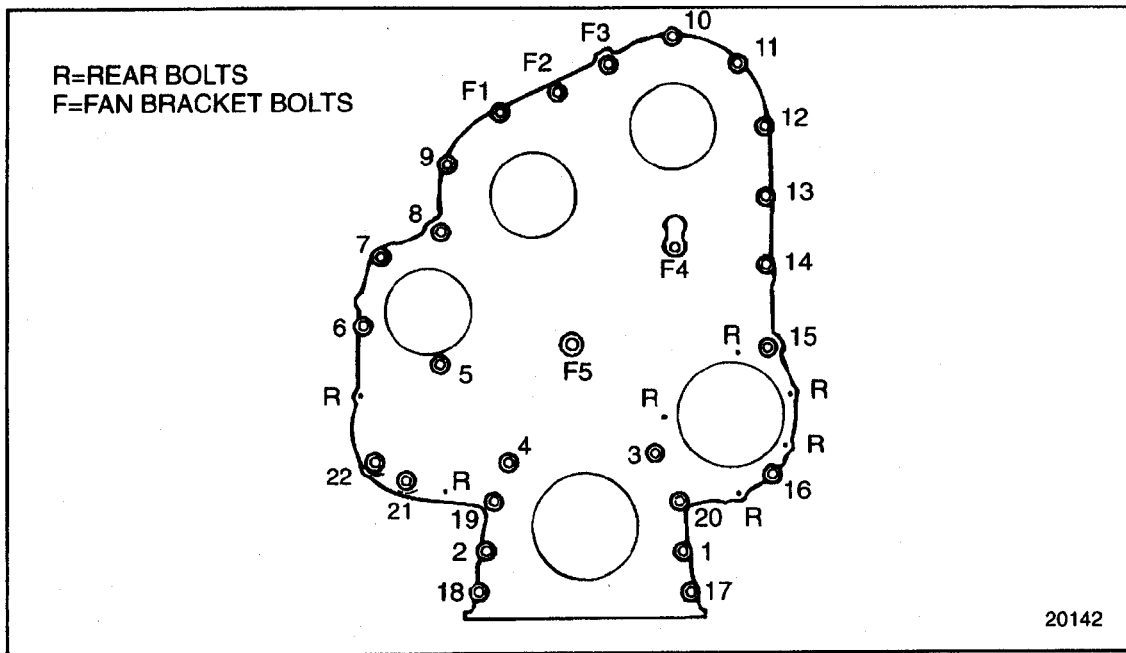

Figure 1-168 Gear Case Cover Bolt Torque Sequence (Front)
- [a] Install the shorter bolts, No. 1 through 16, 21, 22 (see note), in various locations at the front of the gear case cover. Finger-tighten them. Remove the guide studs when installing bolts 7 and 14. See Figure 1-168.
- [d] Torque bolts 17, 18, 19 and 20 to 160-200 N·m (118-148 lb·ft). See Figure 1-168.